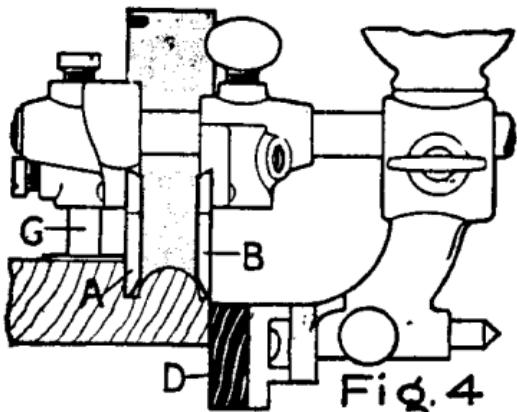

Fig. 4
**Fig. 4—BEADING**—For ordinary Beading place Sliding Section (B) so that the outside of same is in line with left side of the cutter. Fence (D) gauges the distance of bead from edge of board, and Gauge (G) depth of cut. Spurs not used.
**Fig. 6—CENTER BEADING**—Attach Cam Rest (Y) to either Arm between Sliding Section and Fence to steady Plane. Attach Fence as in Fig 4, and Plane will cut bead five inches from edge of stock. Set as in Fig. 6 and it will cut bead eight inches from edge. Gauge (G) is used as in ordinary beading. No Spurs required.